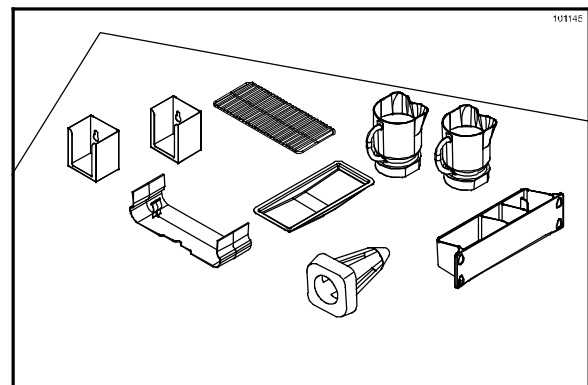

Figure 77
22. Place the blender pitchers, skirt, syrup rail, pitcher drying station (grate and drip pan), lid holders, and whipped cream holder on a clean, dry surface to air dry overnight. (See Figure 77.)